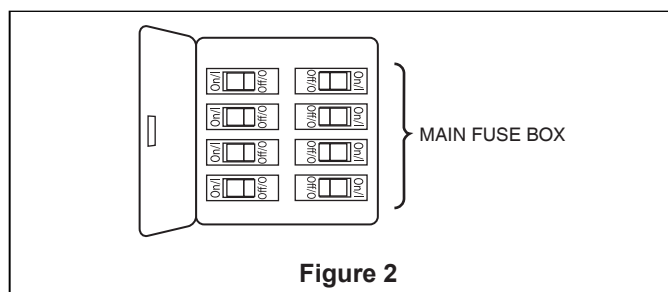

Figure 2
- ☐ **2.** Restore electrical power to the outlet box by turning the electricity on at the main fuse box. (Figure 2)